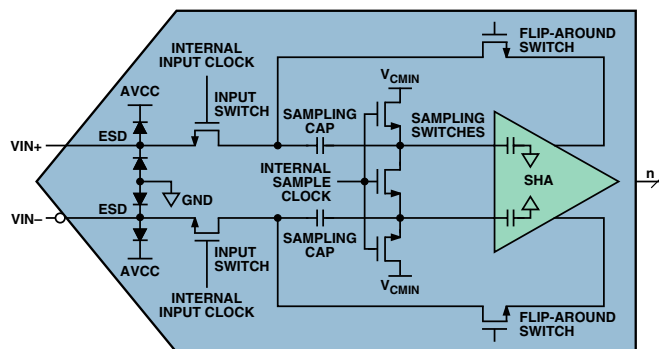

Figure 8. Block diagram of switched-capacitor ADC input stage.
A. The popular CMOS switched-capacitor ADC does not have an internal input buffer, so it has much lower power dissipation than buffered types. The external source connects directly to the ADC's internal switched-capacitor sample-and-hold (SHA) circuit (Figure 8). This presents two problems. First, the input impedance varies with time and as the mode is switched between *sample* and *hold*. Second, the charge injected into the sampling capacitors reflects back onto the signal source; this may cause settling delays for passive filters in the drive circuit.